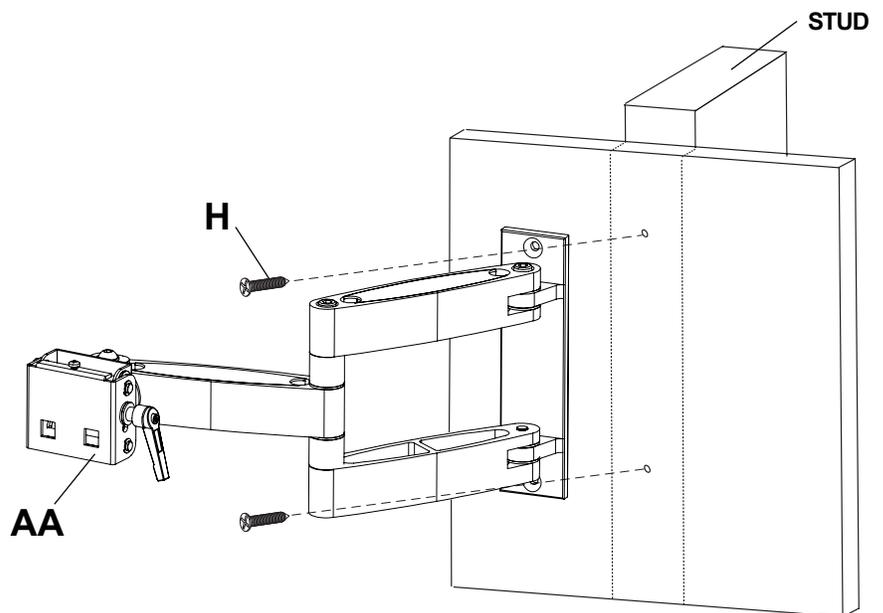

fig. A.2
A Using a stud finder, locate and mark the edges of the wood stud. Use of an edge to edge stud finder is highly recommended. Use a level to draw a vertical line down the center of the stud. Use AA as template to mark center of holes along the vertical line. Drill two 1/8" (4 mm) dia. pilot holes 2" (50 mm) deep. Attach AA to wall using two M6 X 60 hexagonal screws (H) as shown in fig. A.2. Level plate, then tighten all fasteners.